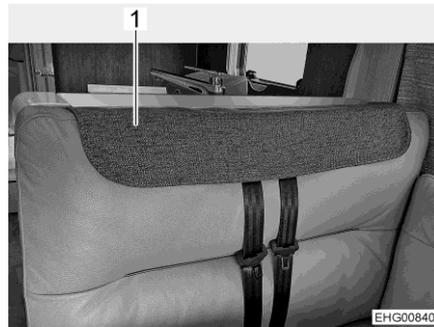

Fig. 61 Seat belt cover attached
When the vehicle has been positioned, the headrests can be removed from the back cushion of the bench to allow for more comfortable seating. The openings for the headrests and the cut-out for the seat belts can then be covered with a seat belt cover (Fig. 61,1).
- Attach the seat belt cover over the cut-out for the seat belts (Fig. 61).